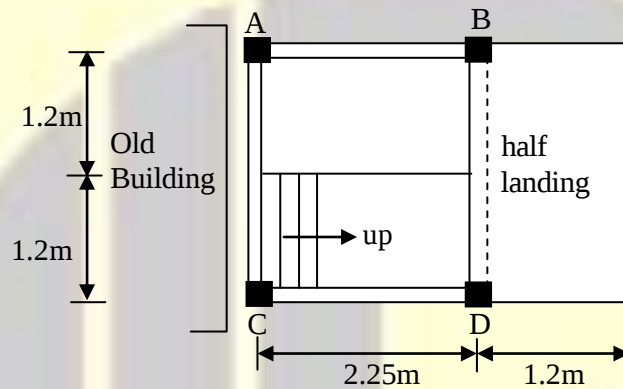

Figure 11
- (b) A separate two-flight staircase is to be constructed for an old residential house as shown in Figure 11. The floor-to-floor height of the building is 3m. There are 10 nos. of risers of each 150mm and treads of 250mm. Four columns are located at A, B, C, D. The beams AB, CD and AC are located at floor level and the beam BD is located at half landing level. The thickness of waist slab and the landing is 150 mm. Live load = 3 kN/m^2 . Half landing slab is cantilevered from the beam BD. Neglect the line load along the edge of the half landing. Draw the bending moment diagram for the flight for design purpose.